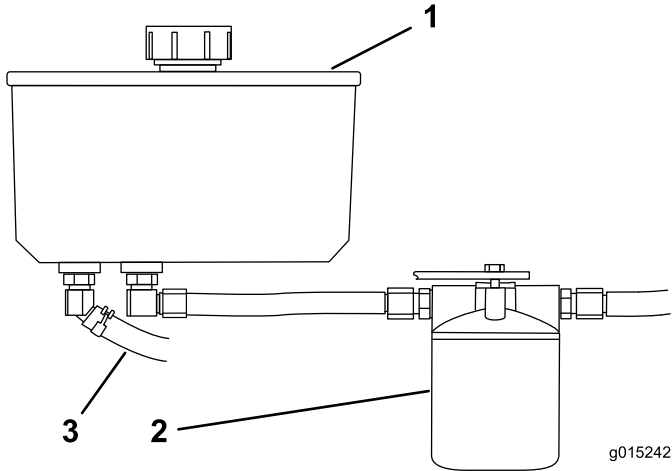

Figure 76
4. Locate the front hydraulic hose under the hydraulic tank, and place a drain pan under the tank (Figure 76).